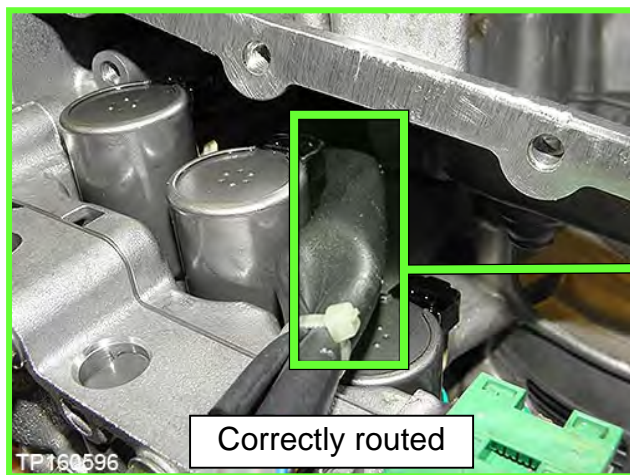
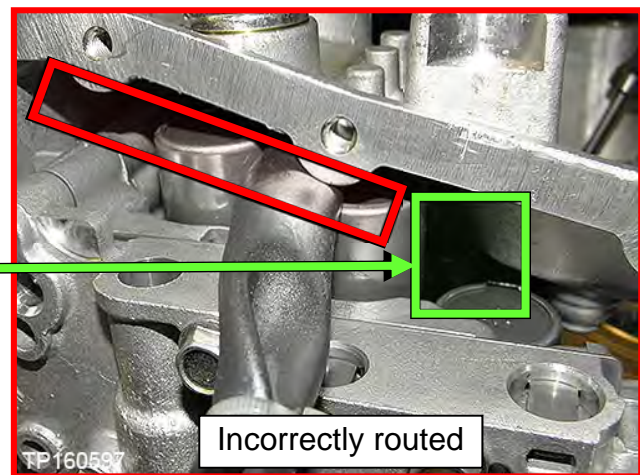

Figure 155
Figure 156
- Leave four (4) ✘ bolt holes empty at this step.
- Make sure the wiring harness is not pinched (see Figure 155 and Figure 156 for correct routing).